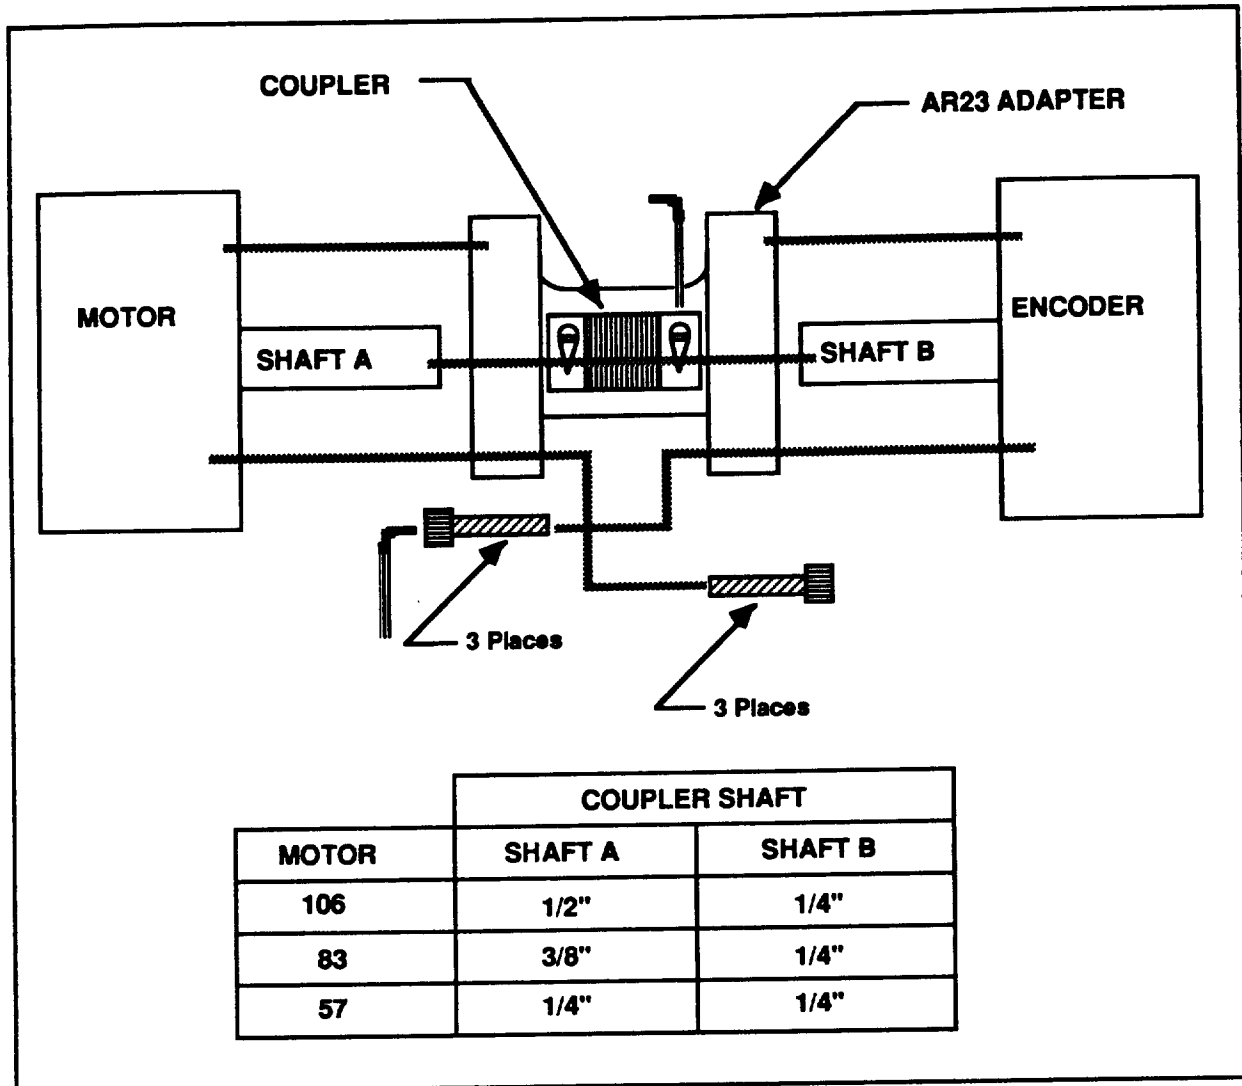

Figure 3-5. -B, -C, and -D Mounting Options
3. The -B, -C, and -D options are available for NEMA size stepper motors (Refer to Figure 3-5). This includes the mounting bracket for the encoder and the necessary coupling and screws.